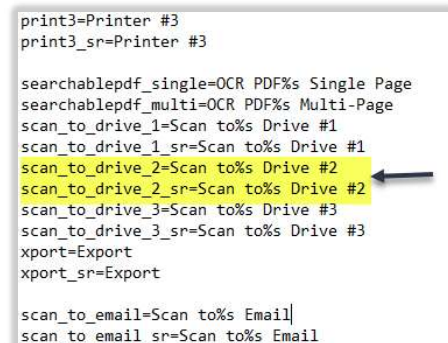

Figure 65
- Type new name to the right of the equal (=) sign. **WARNING DO NOT ENTER INFORMATION TO THE LEFT OF THE EQUAL (=) SIGN.** In this example screen the “Scan to Drive #2” button name (*Figure 65*) has been changed to “USB” (*Figure 64*).